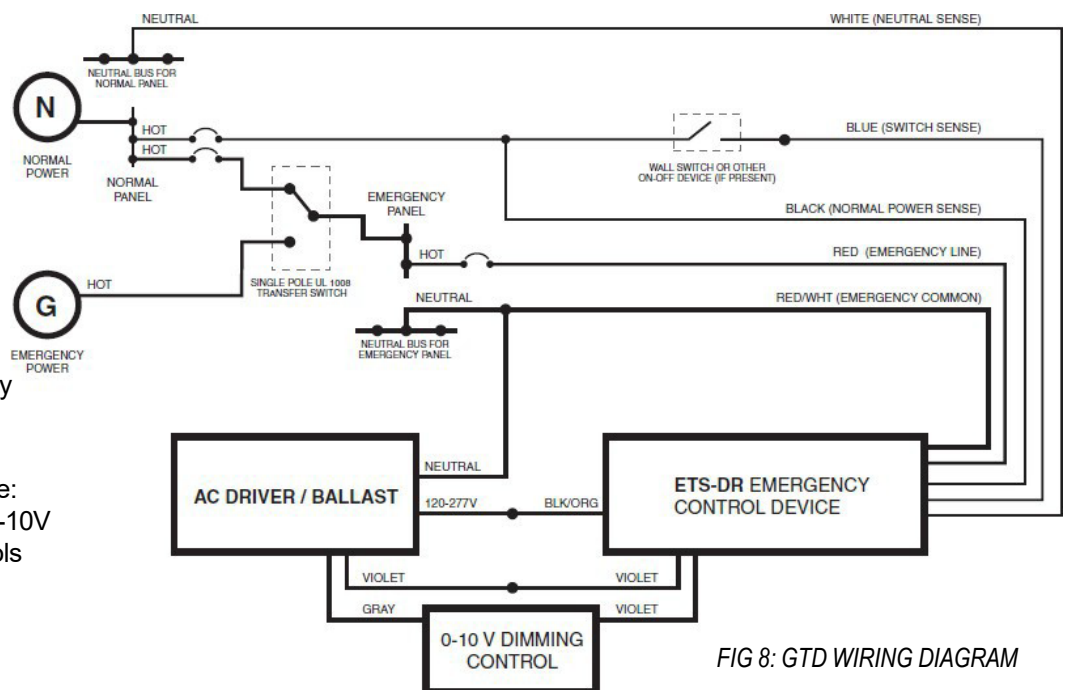

FIG 8: GTD WIRING DIAGRAM
6. (GTD OPTION) For use with generator system. See Figure 8.